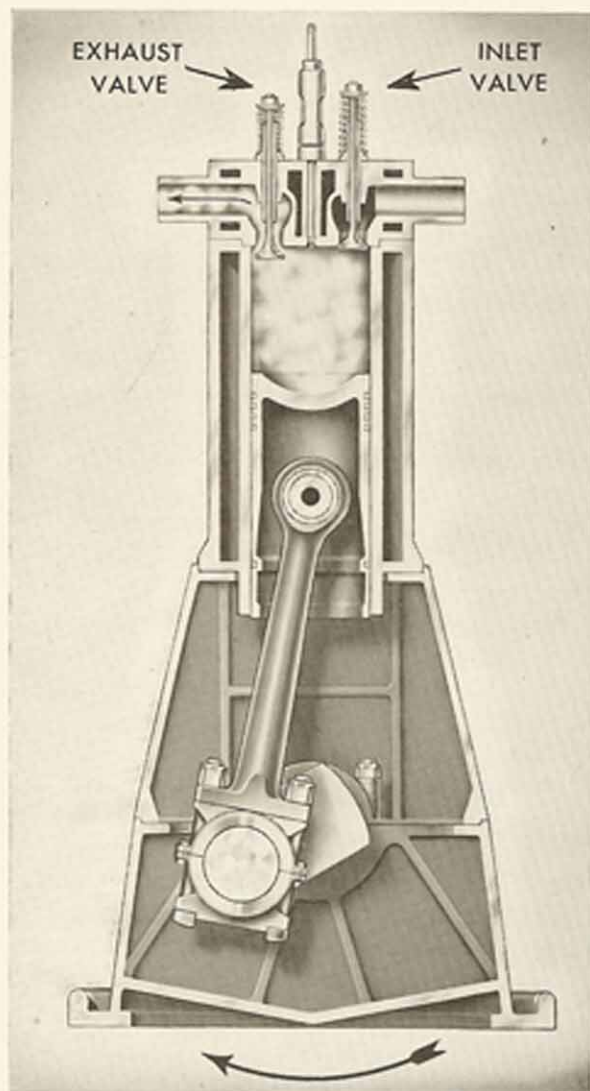
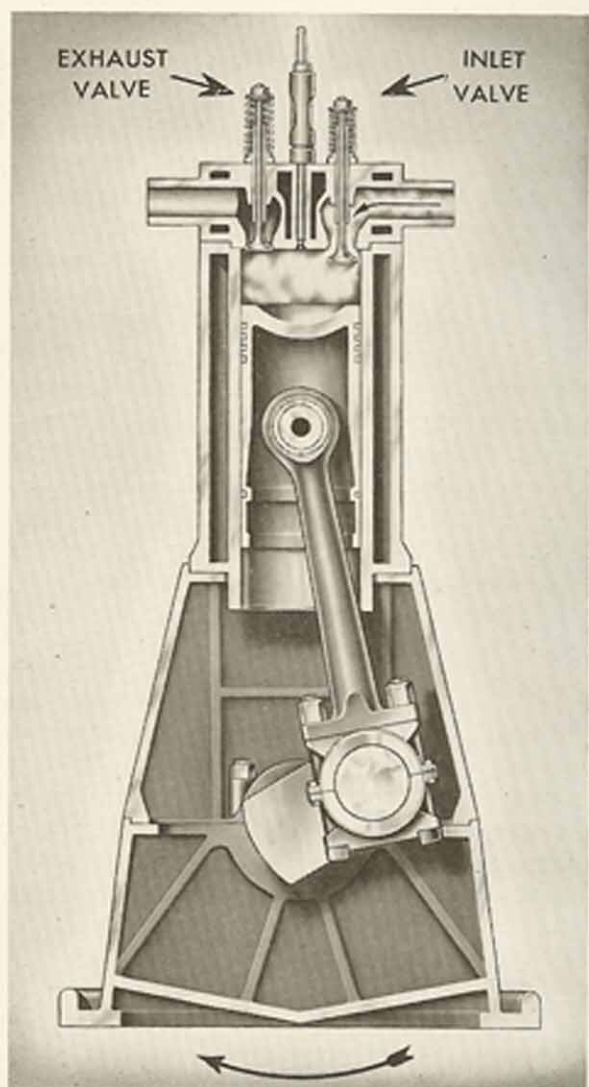

Figure 1-3
Figure 1-4
8. THE EXHAUST STROKE: Somewhere near bottom center at the end of the power stroke a valve opens in the cylinder head. A valve is merely something to open or close a passage. An ordinary water spigot is a valve. So this valve opens and most of the combustion gases rush out and the pressure inside the cylinder drops to nearly atmospheric pressure. But the crank keeps on turning (we shall explain why in due time) and moves the piston into an upstroke. As the piston rises it pushes the remainder of the combustion gases (they are usually called exhaust gases from this point on) ahead of it and out through the valve, which is called the exhaust valve. The stroke is also called the exhaust stroke, and sometimes the scavenging stroke, Figure 1-3.
9. THE INLET STROKE: At the end of the exhaust stroke the piston is at top center. The exhaust valve closes, and another valve, called the inlet valve, opens (this is sometimes called the intake valve, suction valve, or admission valve). Although the exhaust valve leads to a passage (not shown in Figure 1-3) that ends with a muffler to lessen the noise of the exhaust, the inlet valve may simply open the cylinder to the atmosphere. As the piston starts the next downstroke after the end of the exhaust stroke, it draws air from the atmosphere into the cylinder by suction. This stroke is called the inlet stroke (also the intake stroke, suction stroke, or admission stroke). It is illustrated in Figure 1-4.